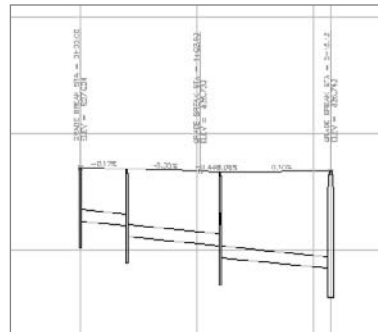

Figure 13.15
- At the Select profile view origin: prompt, select a location in the drawing underneath the Parker Place profile view. A new profile view will appear showing the storm pipes and structures (see Figure 13.15). Some of the profile labels specify grade breaks and slopes — you can erase those if you'd like.